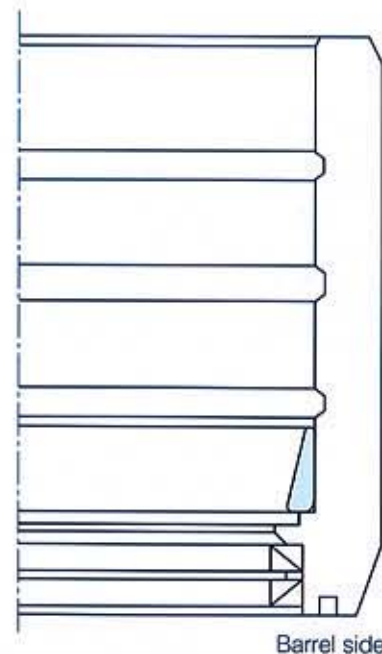

Fig. 3.1
- (1) Apply grease to the chock bore surface and over all the surfaces of the single-cup with matching symbols A-B.
- (2) Lift the single-cup (with matching symbols A-B) with a lifting tool, determine the proper load position number, and insert the cup into the chock with care, making sure the load position number is in the maximum load position. (**Fig. 3.1**)